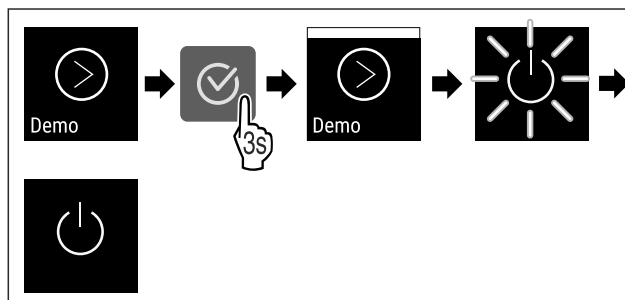

Fig. 110
- ▶ Complete steps (see Fig. 110).